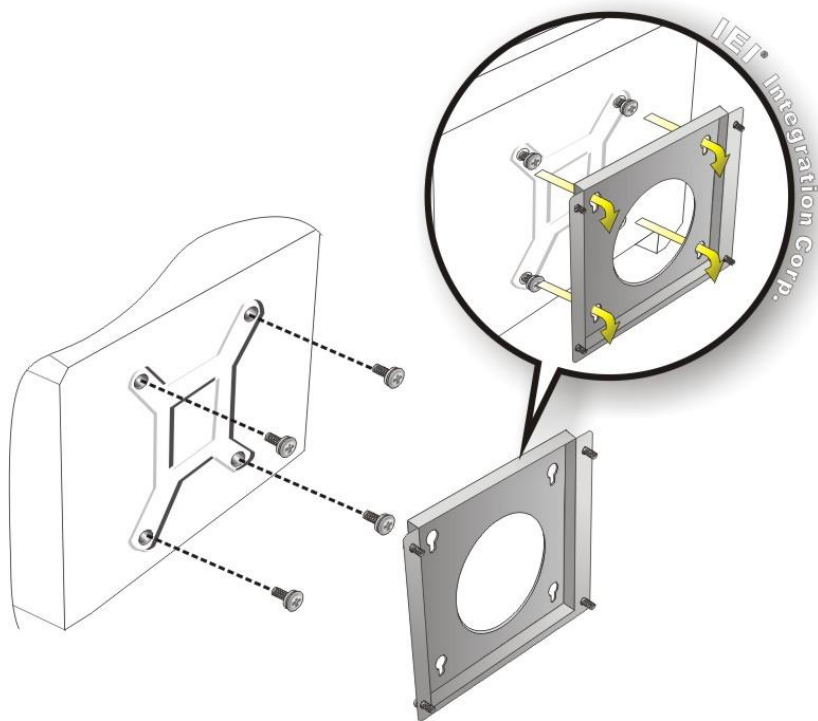

Figure 3-38: Mount the Chassis
Step 6: Insert the four monitor mounting screws provided in the wall mounting kit into the four screw holes on the rear panel of the monitor and tighten until the screw shank is secured against the rear panel (**Figure 3-38**).
Step 8: Carefully insert the screws through the holes and gently pull the monitor downwards until the monitor rests securely in the slotted holes (**Figure 3-38**). Ensure that all four of the mounting screws fit snugly into their respective slotted holes. Always keep the AURA-xxx-MTL in landscape orientation when mounting on the wall.